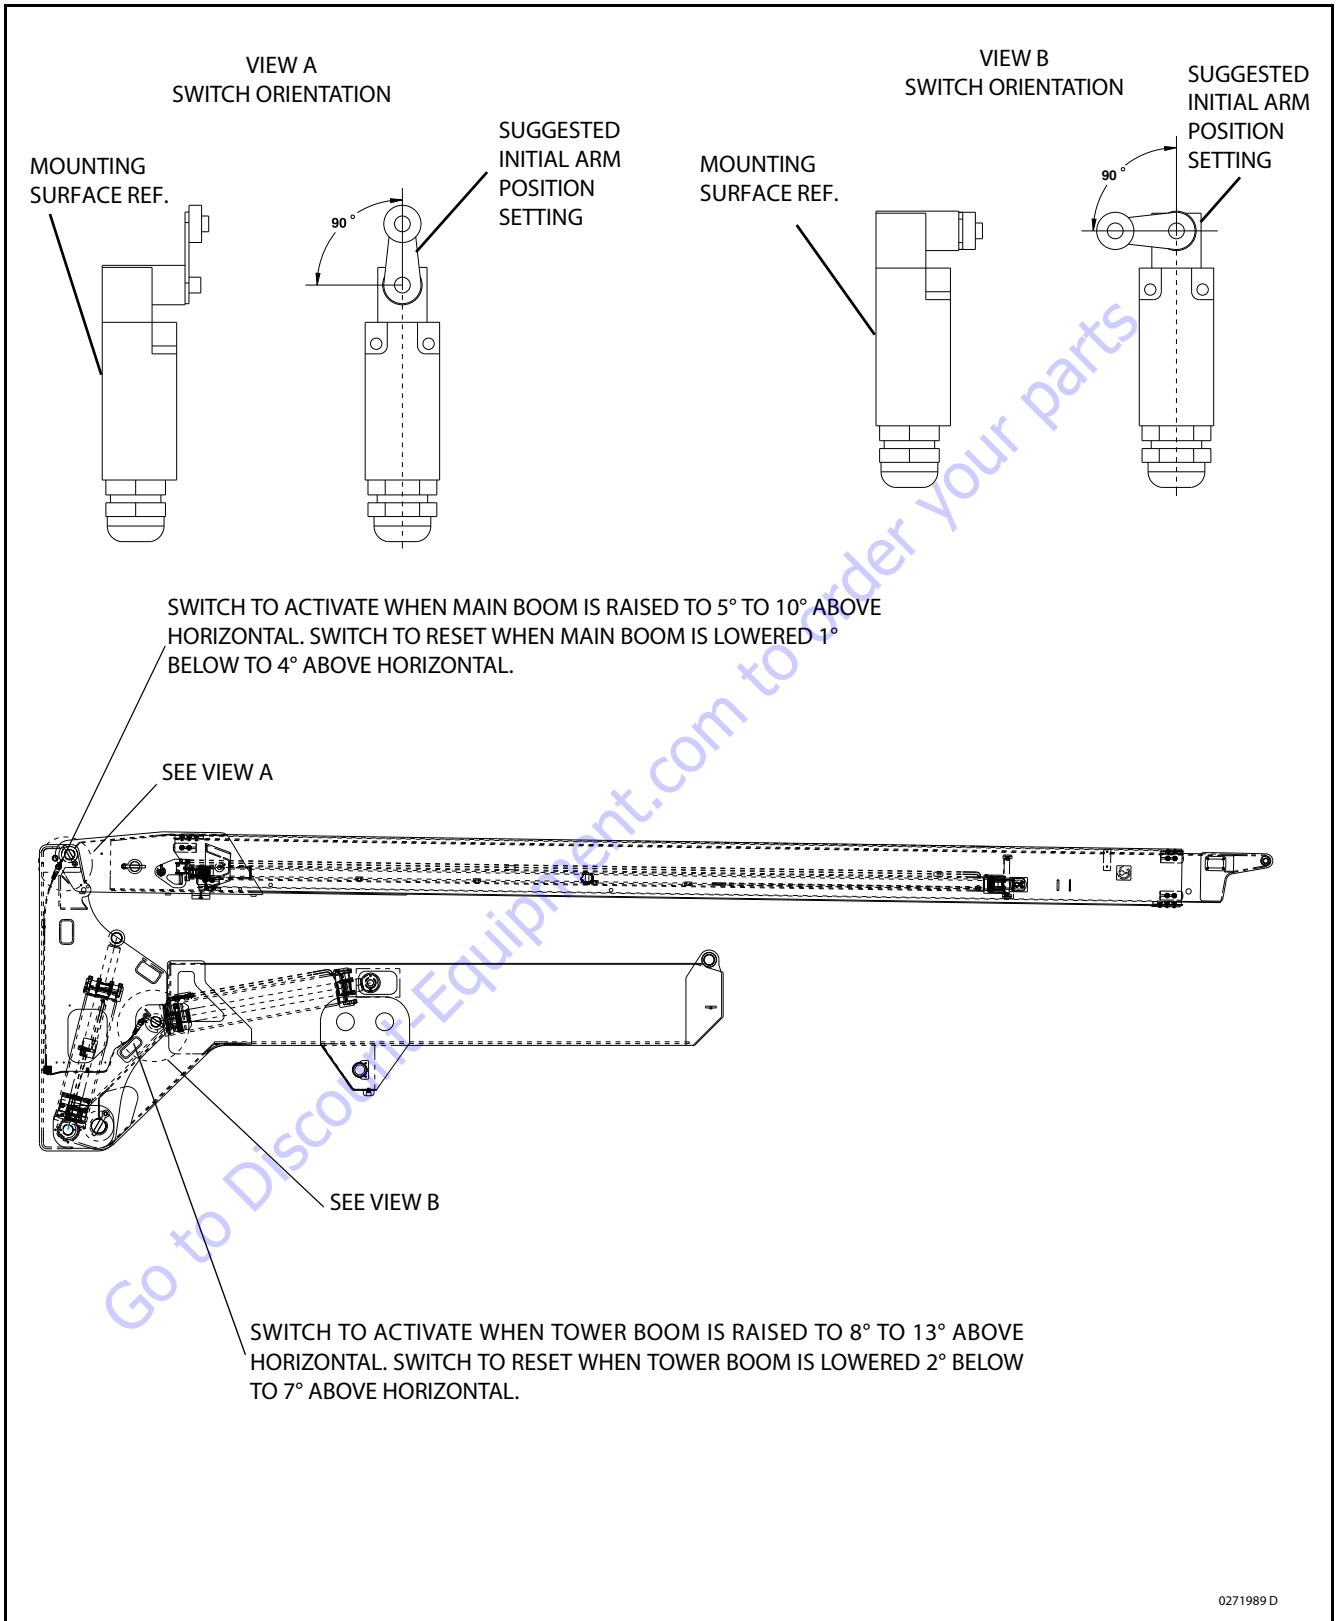

Figure 4-9. Boom Valve and Limit Switches Location - Sheet 1 of 2
3. Lower main boom until limit switch resets. This should be 1 degree above to 4 degrees below horizontal (See Figure 4-9. for adjustments).